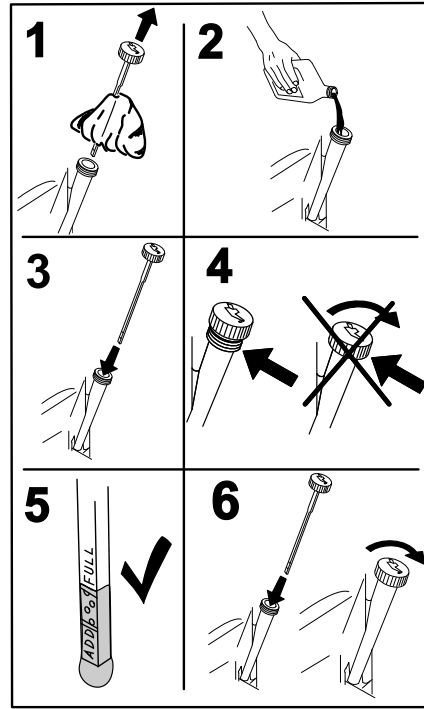

Figure 40
5. Slowly pour approximately 80% of the specified oil into the filler tube and slowly add the additional oil to bring it to the **Full** mark (Figure 40).